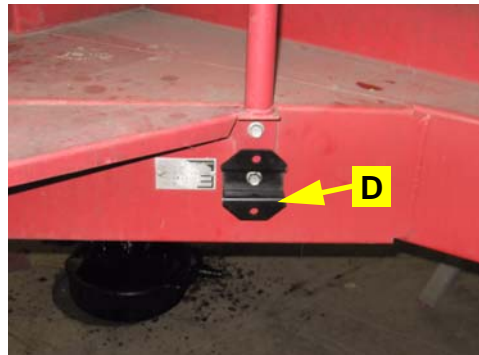

Figure 2b: Mounted bracket
- b. Mount the bracket **D** as shown using the removed bolt and nut from the hand rail (Figure 2b).